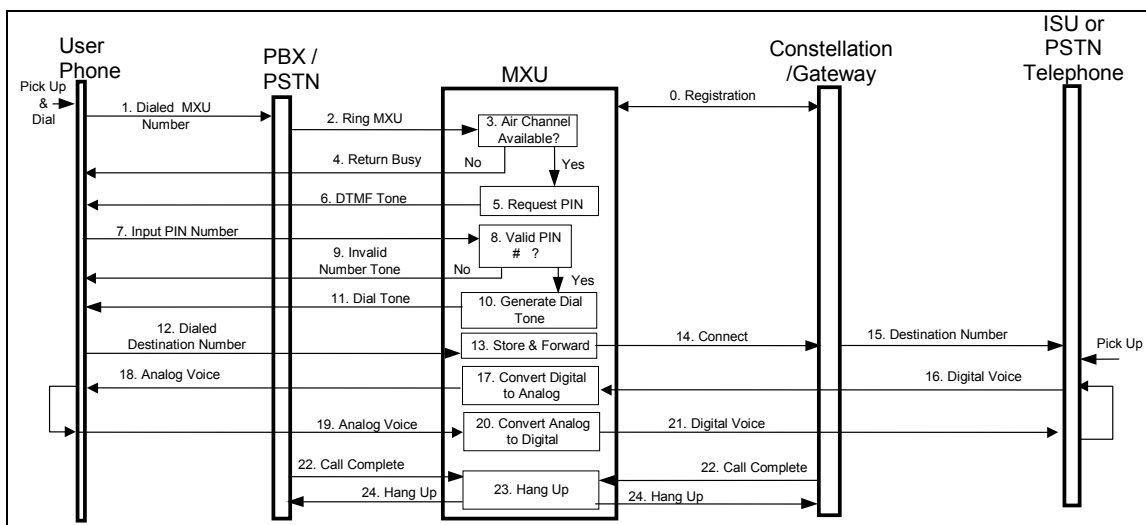

Figure 6.5.2-1: MXU Originated Calling Scenario
A simplified scenario of a PBX-connected phone making an MXU-originated call is illustrated in Figure 6.5.2-1. The PBX user initiates a call by dialing the MXU number into the PBX (1). If the MXU extensions are not available, the PBX issues a busy signal to the user. If a line is available, the PBX rings the MXU (2). If there are no Iridium channels available, the MXU returns a busy signal.